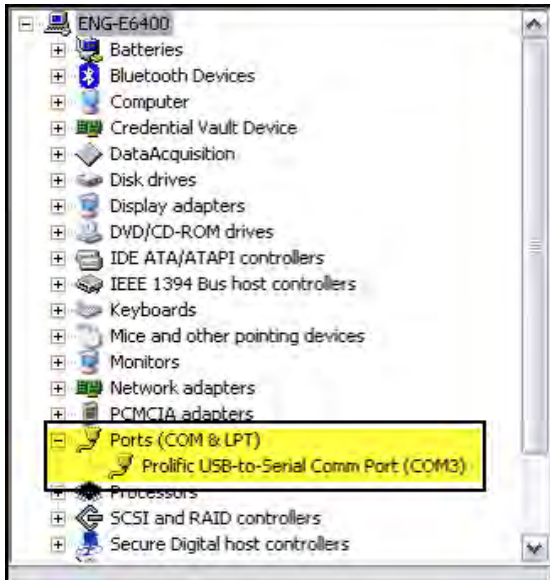

Figure 2
- Double click **Prolific USB-to-Serial Comm Port**. (Figure 2)